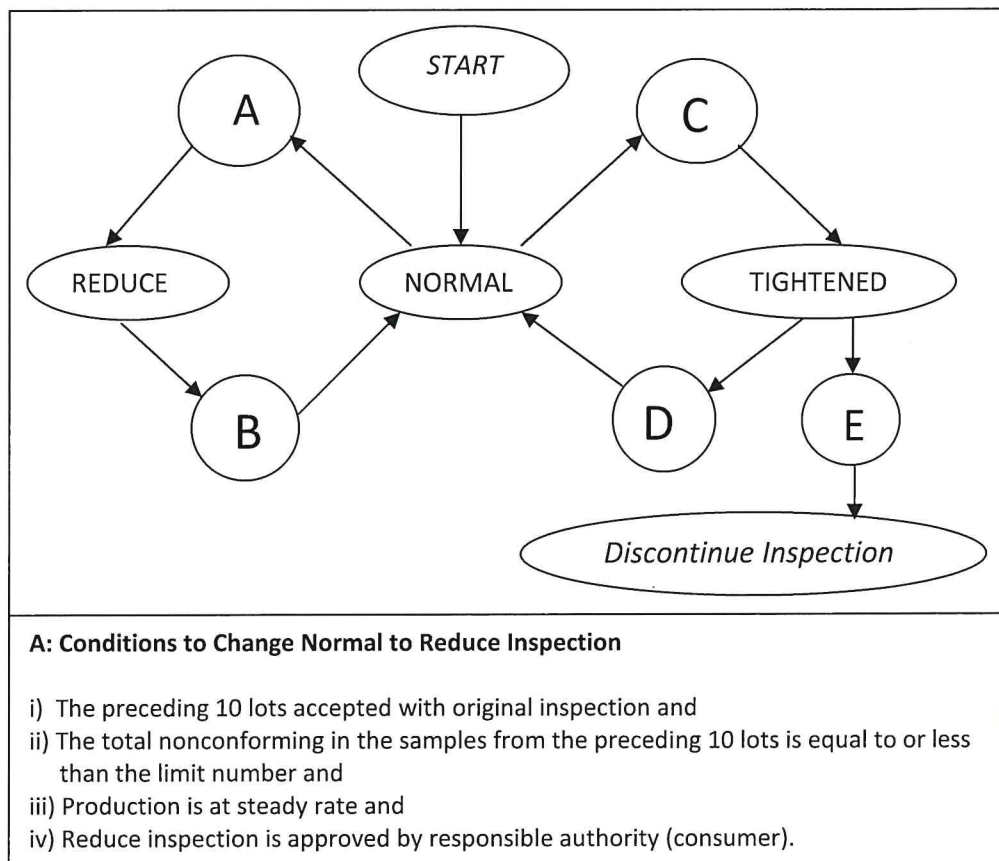

Figure 3(i) / Rajah 3(i)
- (a) Figure 3(i) below shows a flow chart of single sampling plan switching criteria between normal, reduced and tightened inspection. Describe ALL the terms and conditions needed to switch between reduced to normal inspection (B), normal to tightened inspection (C), tightened to normal inspection (D) and the condition for discontinue inspection (E).